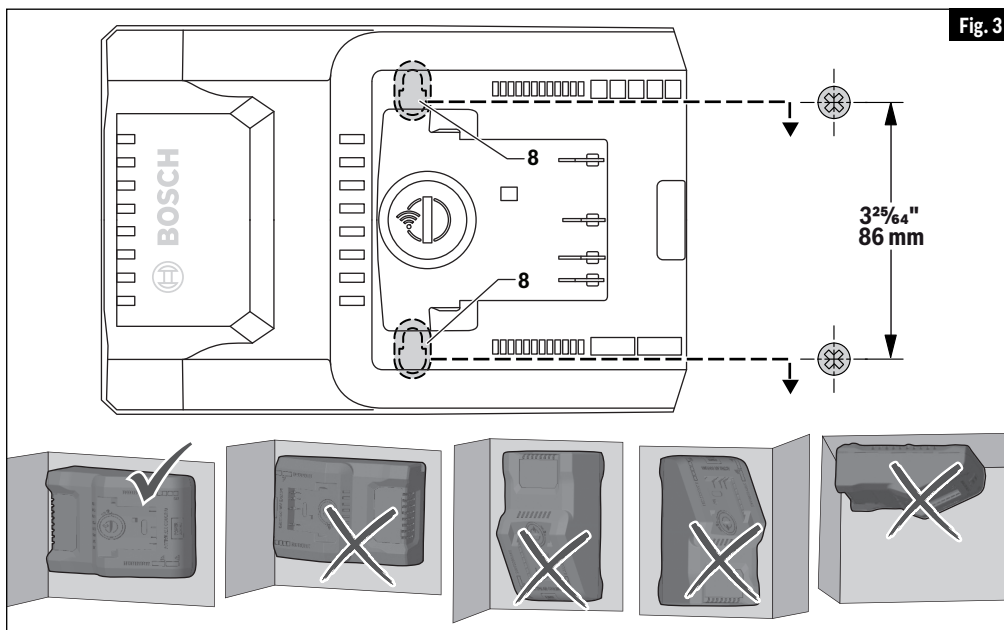

Fig. 3
- Locate suitable mounting area on the wall. See Fig. 3 for proper mounting orientation.